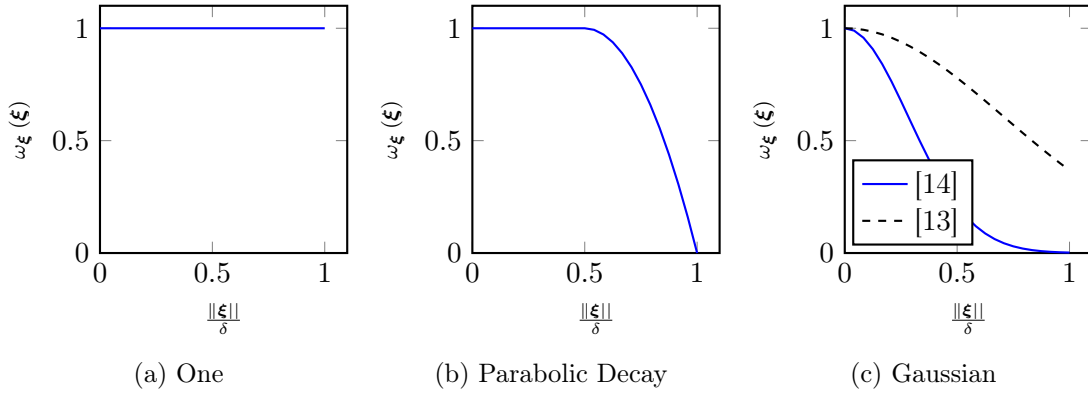

Figure 3.1.: Influence functions
3. The influence functions in Figure 3.1 are pre-implemented. Each unrecognized string is assumed to be an user-defined influence function. The default value is set to *One* in case the keyword is not specified, see `Peridigm.cpp`.